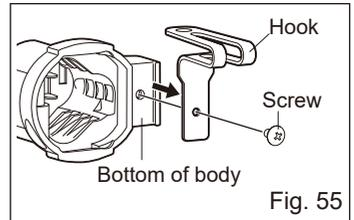

Fig. 55
- Removing and replacing the hook. (Fig. 55)